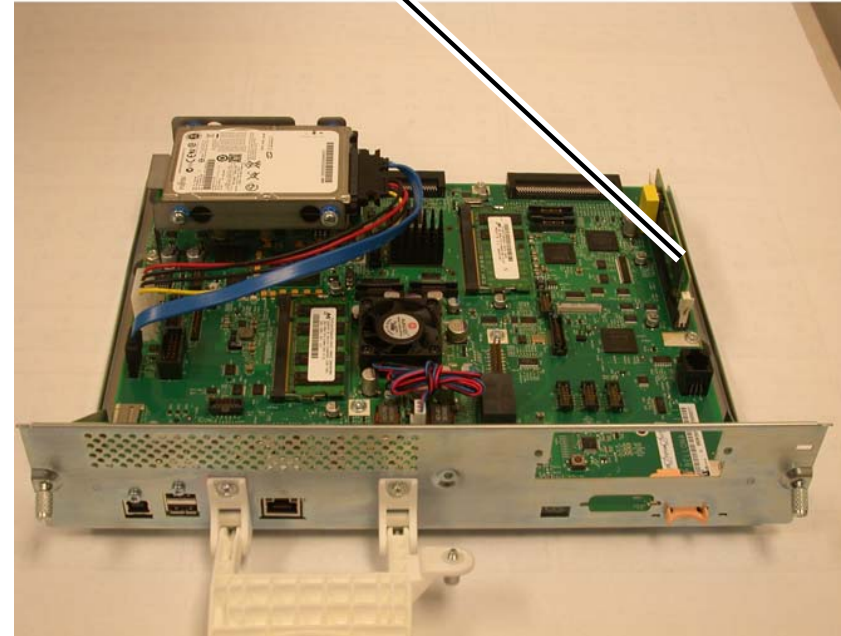

Figure 1 Removing the SBC Flash Module/NVM PWB
4. Remove the SBC NVM PWB (Figure 1).
1. Install the Flash Memory module onto the NVM PWB (Figure 1).